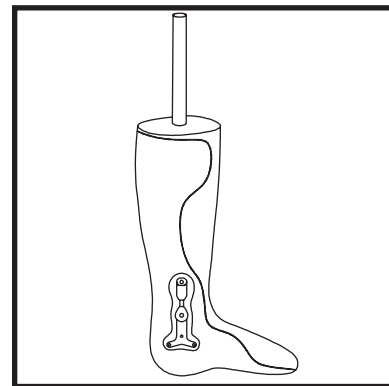

Figure 5
11. Once the plastic has cooled, remove the plastic covering the alignment screw heads. With a cast saw rough trim the AFO following the desired anterior and posterior trimlines with exception of the area around the joints. Figure 5. (Caution: Care must be taken to avoid hitting the ankle joint or stirrup with the cast saw or other metal objects).